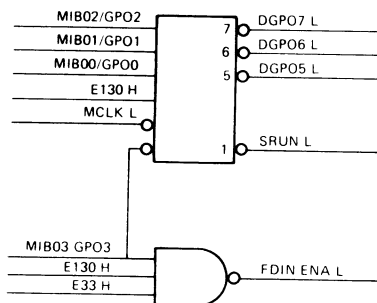

Figure 13-7 GPO Decode Logic
**MIB02, 01, 00/GPO 2, 1, 0** — GPO 2, 1, and 0 are driven by the data chip during clock-high time and perform control functions on the processor board. These signals are decoded by the logic illustrated in Figure 13-7. The decoded output is shown in Table 13-4, General-Purpose Output Signals.